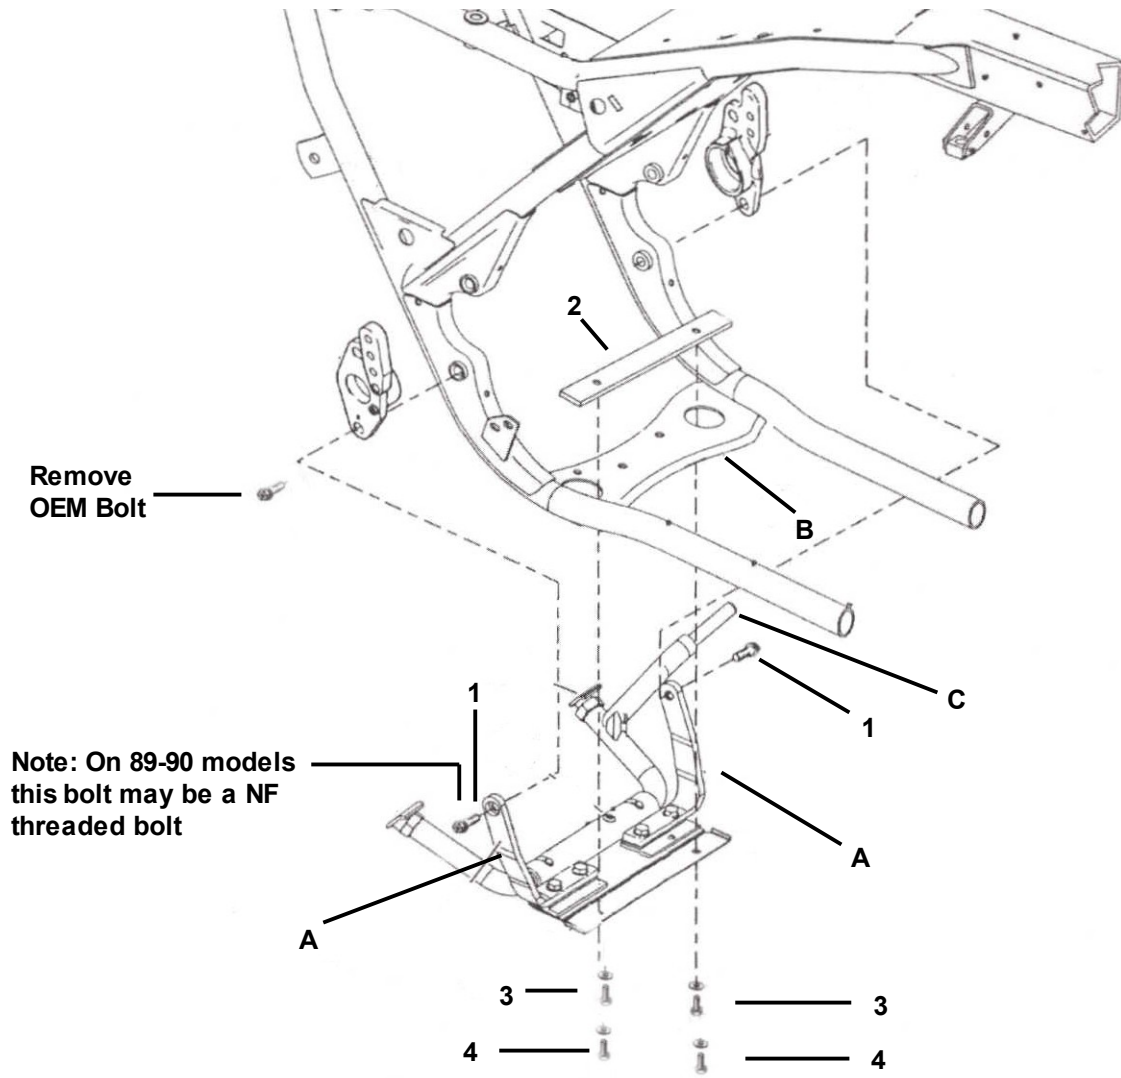

Figure 1
4. Position the display stand under the bike and install the 7/16-14X1-1/4 Allen bolts and flat washers supplied in the kit (1) through the vertical arm of the stand, (A) into the lower swing arm hole as shown in figure 1. Do not tighten completely.
NOTE: On some 1989 & 1990 models the OEM bolts used were a fine thread. Use the 7/16-20X1-1/4 (NF) Allen bolts provided in kit. Refer to figure 1.
5. Place the top plate (2) under the transmission and over the frame support bracket (B). Swing the stand forward and up under the frame support (B) in line with the top plate (2).